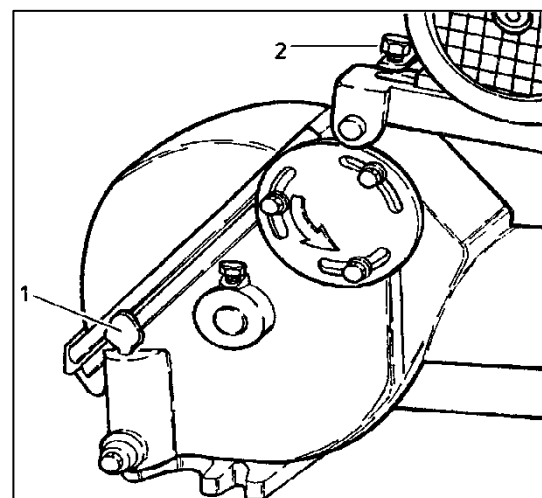

Figure 23: Oil level
- Check the oil level using the dipstick (1). Perform the first oil change after one month of operation.
Re-tension new V-belts after around 4-5 weeks of running time using the tensioning screw (2) (→ Figure 23)).